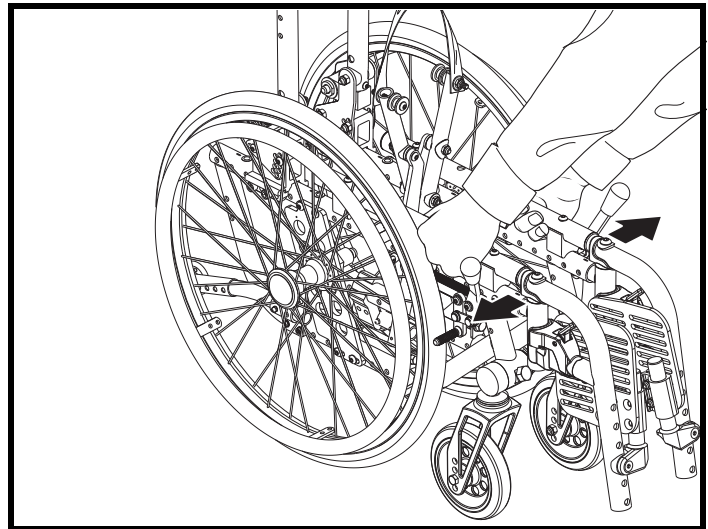

Figure 7. Unfolding the Litestream Junior
2. Place the palms of your hands on each seat base rail. See figure 7.